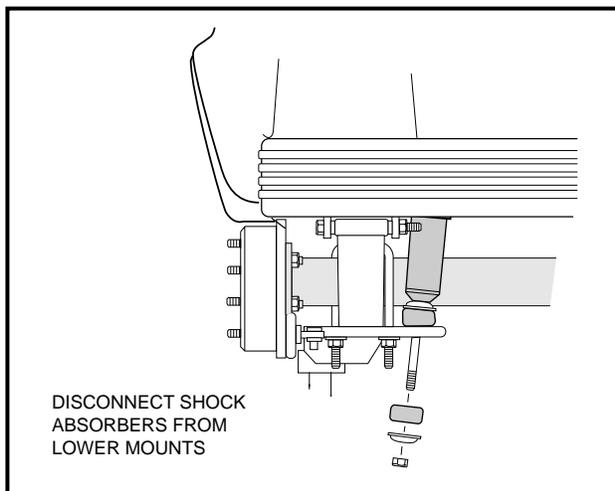

Figure 16-10 Disconnect Shocks
4. Disconnect the shock absorbers from their lower mounts (**Figure 16-10**).